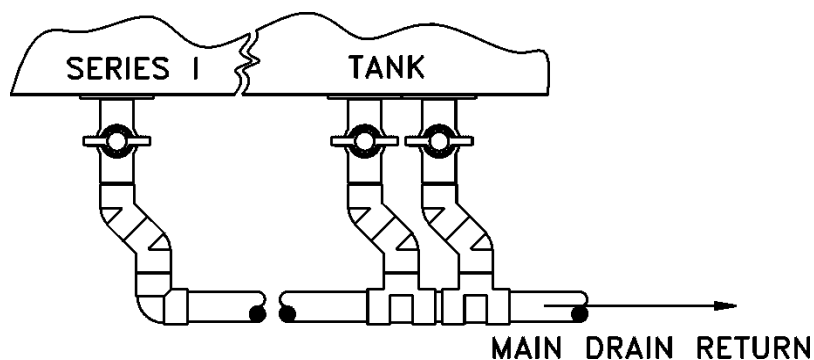

Figure TNK-2
- C. Attach three 1-1/2" **BALL VALVES** with 1-1/2" pipe and connect to the **DRAIN CONNECTIONS** (labeled S1D-1, S1D-2, S1D-3 on the P&ID Diagrams). Plumb the tank drains to the main drain return line as shown in (Fig. TNK.2-TNK.4). Note: Piping and fittings for the main drain return line are not supplied. First, glue both 45° 1-1/2" fittings together as shown in (Fig TNK.2) on a flat surface. Before gluing the 45° fittings into the 1-1/2" tee, rotate the 45° subassembly to the floor. Fig. (TNK.3). Glue total assembly into place. Connect each drain valve assembly together and lead to the main drain return. This procedure holds the drain valves square with the tank.